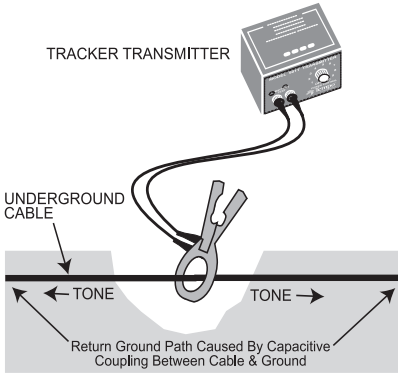

Fig. 11. Mid Run Coupling
2. **Mid Run Coupling:** If the subject cable is relatively long, current is permitted to flow back through earth as tone is transmitted in both directions. (See Fig. 11)